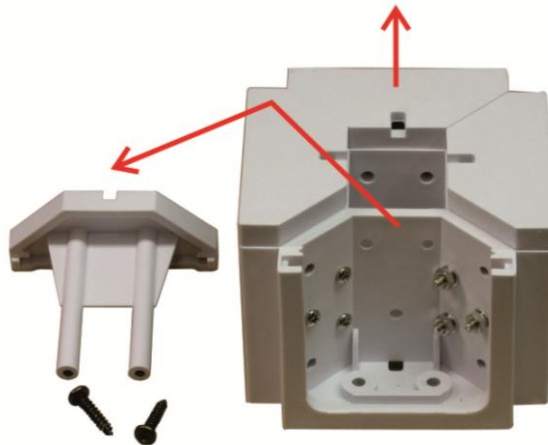

Fig. 3
2. Now turn the WMS bracket and remove the front and back lid as shown in figure 3.